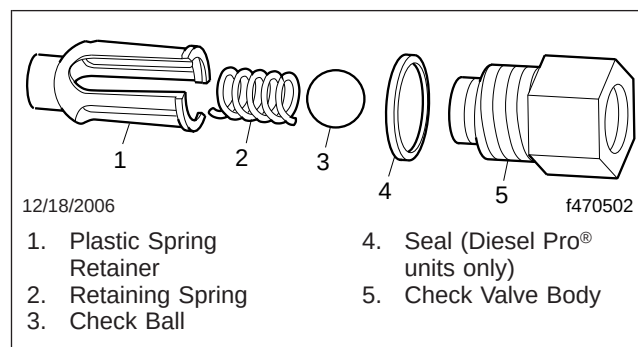

Fig. 3, Check Valve Assembly
When air is introduced into the fuel system, (e.g. when draining fluid or when replacing the fuel filter), the check valve (Fig. 3) works to keep the fuel system primed from the fuel tank to the fuel/water separator.
5. Remove the check valve assembly from the fuel/water separator housing, see Fig. 3.